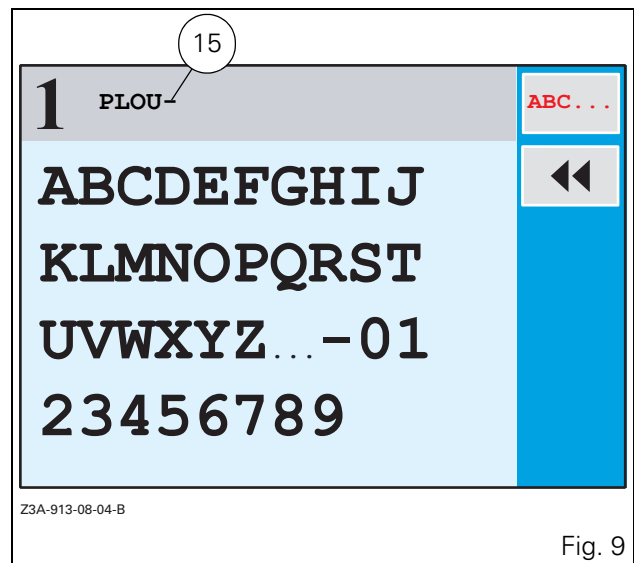

Fig. 9
- To change a letter, press the key «₂. The letter to change is replaced by a hyphen (15 Fig. 9).